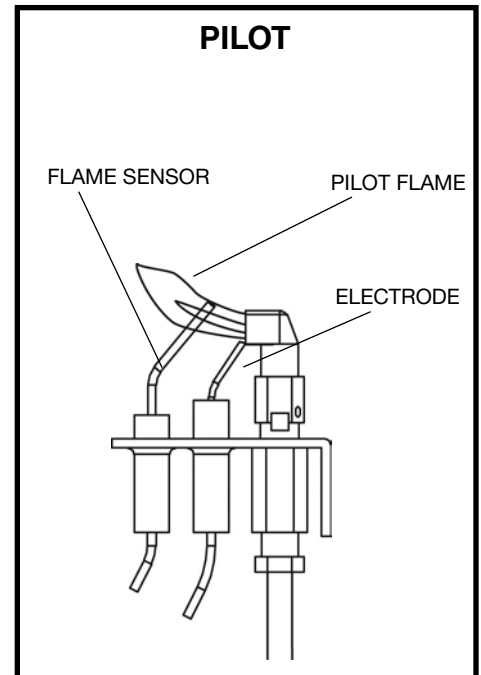

Figure 32: Pilot assembly.
- b) Check the pilot system for proper flame size and operation. Clean pilot free of soot, dust or any other deposits (See Figure 32).